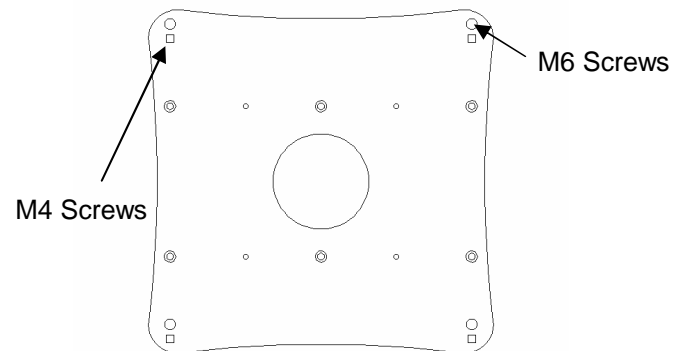

Figure 9. VESA Plate Mounting Holes
3. Depending on mounting hole size and depth, attach VESA Plate (20) by selecting applicable screws size, as follows (see Figure 9):
- a. Use four M4 x 20mm pan head screws (80) and square holes to attach VESA Plate (20). Or,
- b. Use four M6 x 20mm pan head screws (90) and round holes to attach VESA Plate (20). Or,
- c. Use four M6 x 30mm pan head screws (100) and round holes to attach VESA Plate (20). Or,
- d. Use four M6 x 45mm pan head screws (110) and round holes to attach VESA Plate (20).